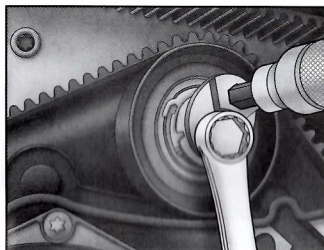

Fig.62
- (3) Release the tensioner until the indicator lug and the notch are aligned, then tighten the tensioner bolt. (Fig.62)
- (4) Using Crankshaft Adjuster (Part No.A), rotate the crankshaft in the direction of engine rotation two revolutions and check the indicator lug and the notch are aligned.